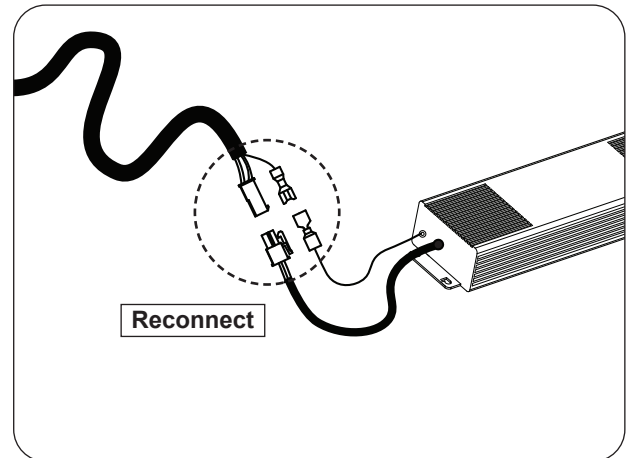

Fig. 30-2 Reconnect harness
4. Reconnect the harness to the power supply (see Fig. 30-2).